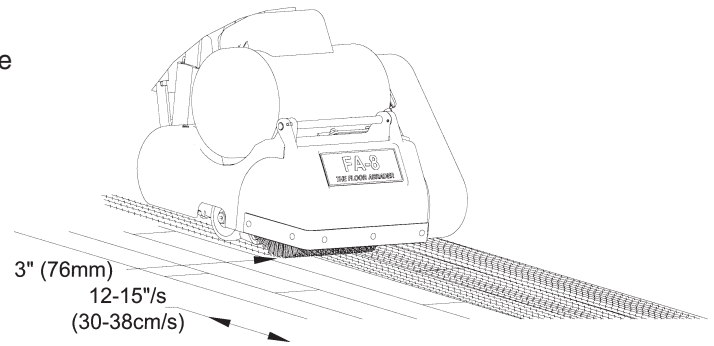

Figure 5
1. Connect the power supply cable to an appropriately grounded and fused outlet. Connect the power supply cable to the cord adaptor attached to the control housing (see item 7 page 6). Press the selector switch to the start (S) position. Once started allow the switch to return to the run (R) position.
3. Use the control lever to lower the abrasive to the floor. Keep the machine in motion while the abrasive is in contact with the floor. Adjust pace for adequate abrasion. For best results index the machine in 3" increments with a pace of 12-15 inches per second. See figure 5.